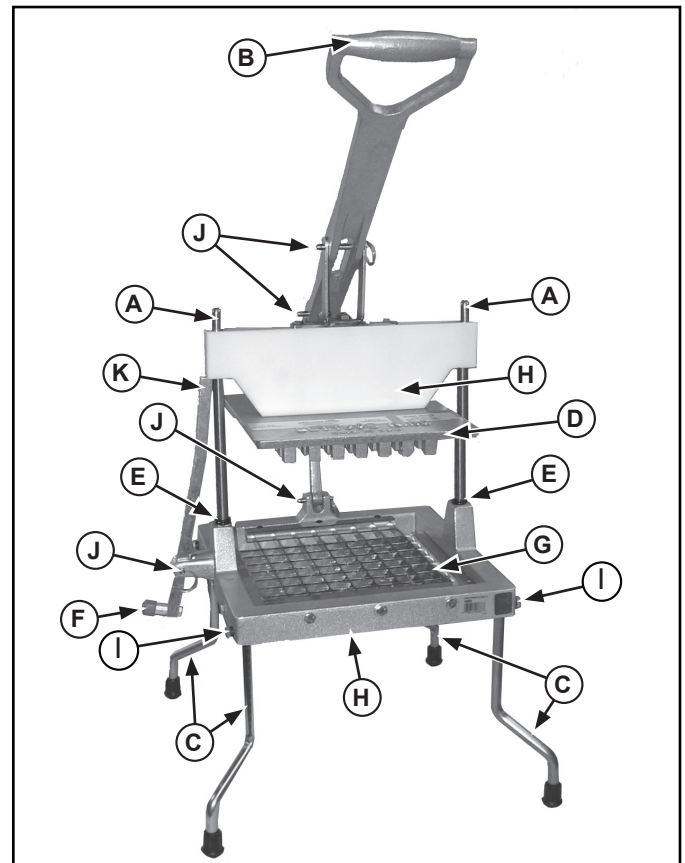

Figure 2. Features and Controls Lettuce King IV.
3. Set legs (C) into the holes in the base assembly (H) so the angled part of the leg faces outward. See Figure 2.
4. Secure legs (C) to base assembly (D) using screws (A) and rubber washers (B). See Figure 2.
**Lettuce King IV:** Hold the handle (B), remove hand from the blade assembly area and place that hand on the lock lever (F). Push lock lever (F) in to release the lock arm from the (D). See Figure 2
4. Remove the screws retaining the blade assemblies (I). Carefully remove and dispose the blade assemblies. See Figure 2.
5. Examine the pusher head (D). If they are nicked or burred, smooth the rough edges with a small flat file.
6. Verify that blade shields (BB) are installed on the blade assembly (DD and CC). See Exploded View for Lettuce King IV.
7. Place the lower blade assembly (CC) into the frame (H) so the it is positioned correctly and the sharp side up.
8. Install the screws into the left side of the blade assembly (CC). Tighten until contact is made with the frame (H). Turn the screw until tight, do not exceed 1/2 turn or 40 in. lbs.
9. Place rubber washer between the right side frame (H) and the blade assembly (CC). Insert the screws through the frame, and rubber washer into the blade assembly. Turn the screw until tight, do not exceed 1/2 turn or 40 in. lbs.
10. Place the upper blade assembly (DD) into the frame (H) so the it is positioned correctly and the sharp side up.
11. Install the screws into the front side of the blade assembly (DD). Tighten until contact is made with the frame (H). Turn the screw until tight, do not exceed 1/2 turn or 40 in. lbs.
12. Place rubber washer between the back side frame (H) and the blade assembly (DD). Insert the screws through the frame, and rubber washer into the blade assembly. Turn the screw until tight, do not exceed 1/2 turn or 40 in. lbs.